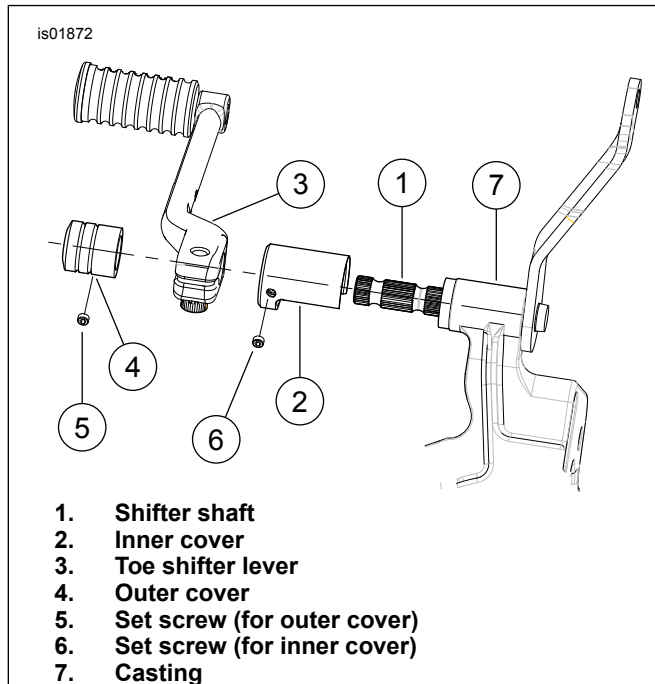

Figure 1. Shifter Shaft Covers
1. See Figure 1. Remove the stock heel shift lever and toe shift lever (3) from the gear shifter shaft (1).
2. Install the set screw (6) into the inner gear shifter shaft cover (2).
3. Install inner gear shifter shaft cover with installed set screw over the casting (7) in-board of the shifter shaft (1).
6. Install the set screw (5) into the outer gear shifter cover (4).
7. Install outer gear shifter shaft cover with installed set screw over the end of the gear shifter shaft (1).